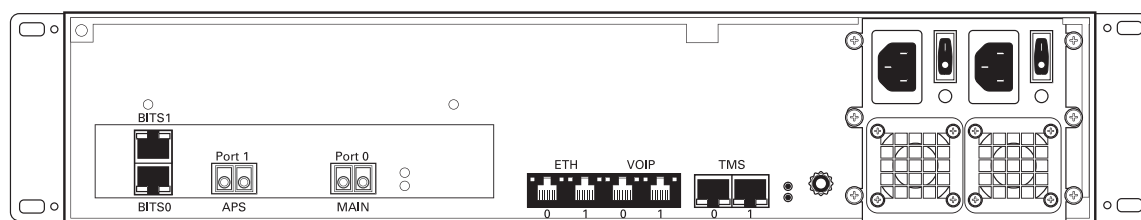

Figure 2.7 Optical Interface to the PSTN
A TMG3200-STM-1, with one main and one backup OC3 or STM1 port enables connection to OC3/STM1 lines. See figure 2.7 on page 24. Refer to table 2.3 on page 24 for a listing of optical interfaces. The default SFP module for OC3/STM1 connection is SMF, intermediate reach, (SFP-OC3-IR1) 1310 nm with LC type connectors.
1. Connect a fiber optic cable between the Port 0 (Main) port and OC3/STM1 line, as shown in figure 2.7 on page 24.